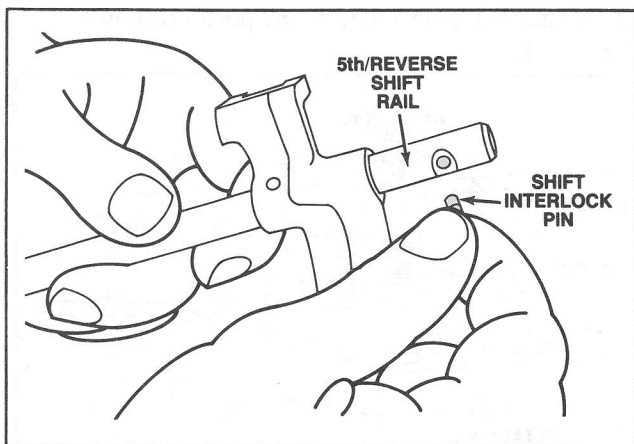

Figure 114 Interlock Pin Installation
4. Install the interlock pin in the fifth/reverse shift rail. (Figure 114).